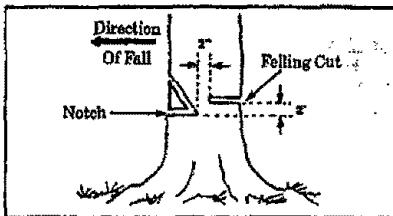

Figure 19
**NOTE:** If the tree has large buttress roots, remove them before making the notch. Cut into the buttresses vertically, then horizontally. Figure 19.